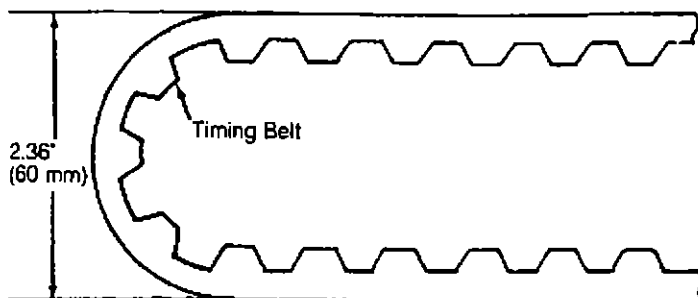

Fig. 5: Measuring Timing Belt Bend Radius
1) Inspect timing belt for wear on rounded edges of drive teeth. Inspect belt for signs of oil contamination. Replace belt if it is damaged or contaminated. Inspect belt tension adjuster oil seals for leaks. Inspect rod ends for abnormal wear and scratches. Timing belt bend radius must be greater than 2.36" (60.0 mm). See Fig. 5.